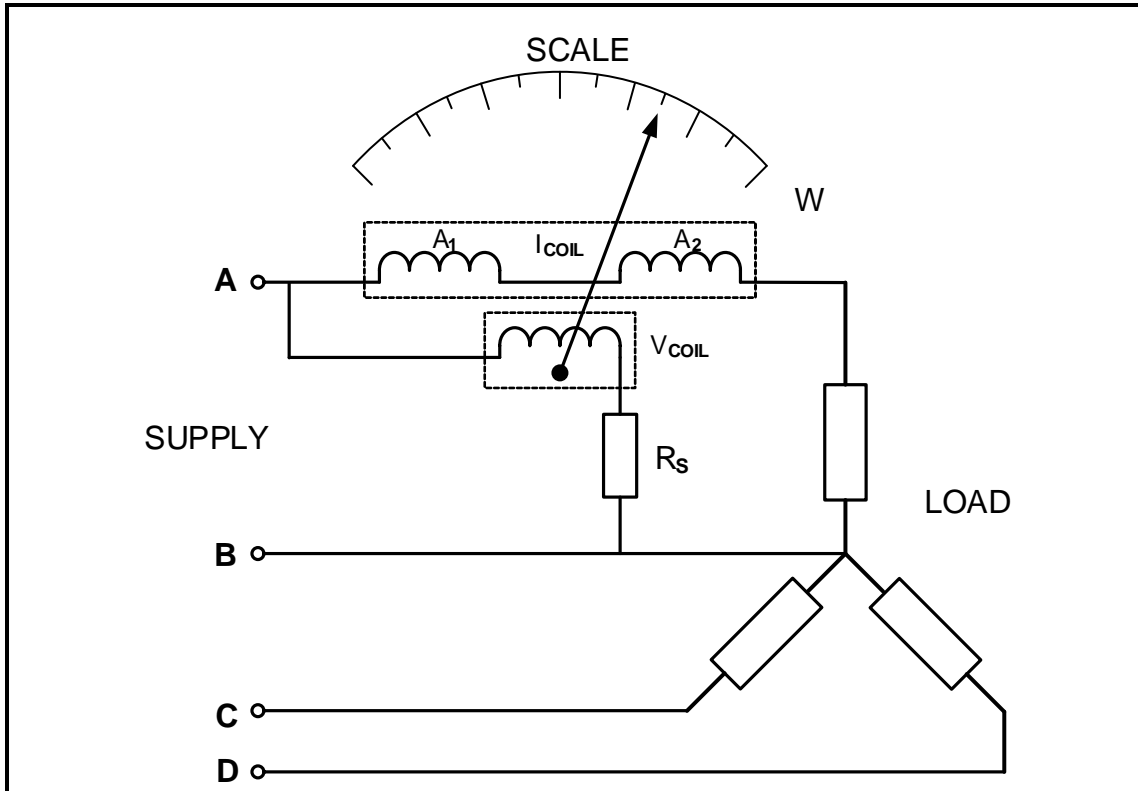

FIGURE 4.5: ANALOGUE WATTMETER
4.5 FIGURE 4.5 below shows the diagram of an analogue wattmeter connected to a phase of a three-phase star-connected system. Answer the questions that follow.